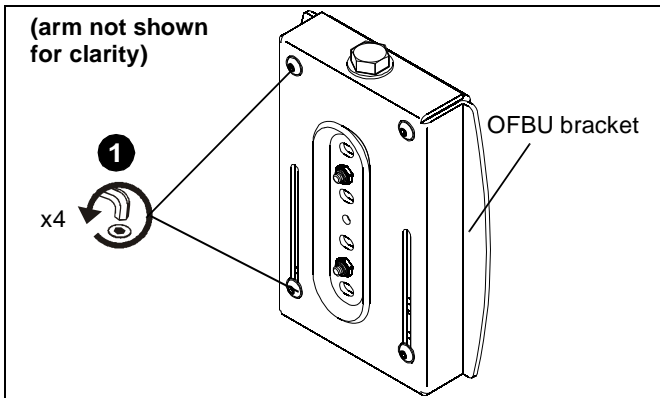

Figure 4
1. Verify mounting brackets on OFBU bracket can move freely. (See Figure 4)